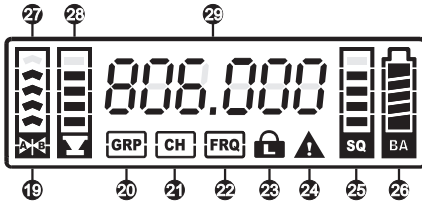

Fig. 9
- LCD Screen displays functions and parameters. Fig. 9: